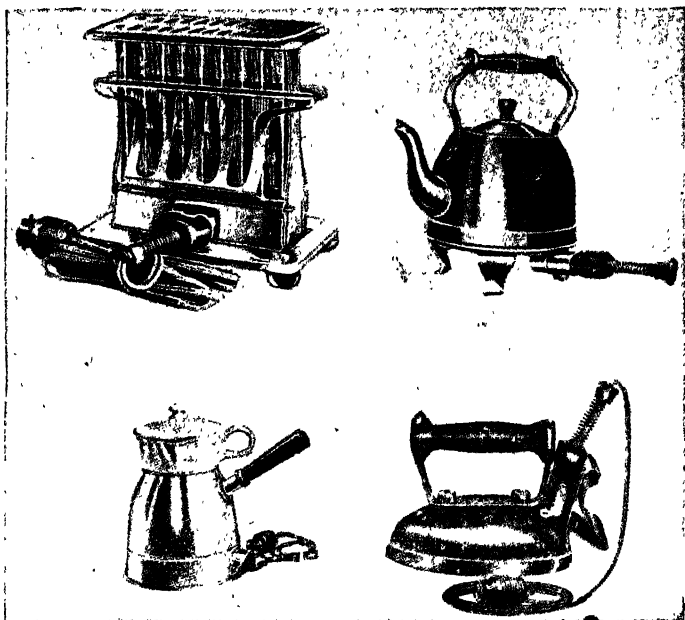

FIG. 123. SOME DOMESTIC ELECTRIC APPLIANCES.
current from the mains, (2) those depending on the heating produced in a wire through which a current is passing. The electric fan, the sewing machine and the vacuum cleaner belong to the first type. Examples of the second type are many and various: electric lamps, fires, cooking stoves, irons, grillers, kettles, toasters, bath-water heaters, milk sterilizers, shaving pots, warming pads. Some of these are shown in Fig. 123 and in most cases the general construction is obvious. The heating "element" of nichrome wire is at the base of the kettle and the milk sterilizer, but the latter is so arranged that it can be heated by either one of two circuits (two wires of different resistances), one producing enough heat for boiling and the other for simmering. A warming pad or blanket has well-